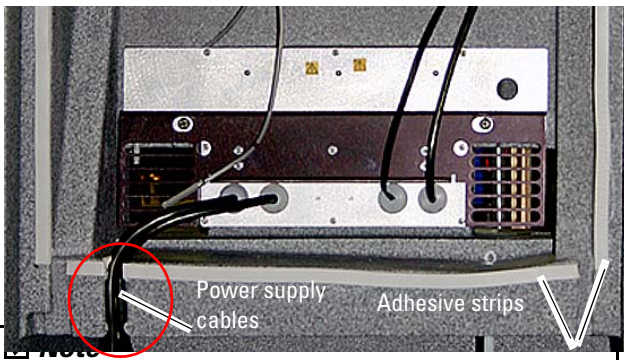

Figure 16: Rear view with module removed
1. Ensure that the control wiring runs through the channel in the refrigerator body (Figure 16).
Two thick, black cables connect the power supply with the AC and compressor (Figure 16). **Ensure that cables are side by side and not crossed during reassembly.**